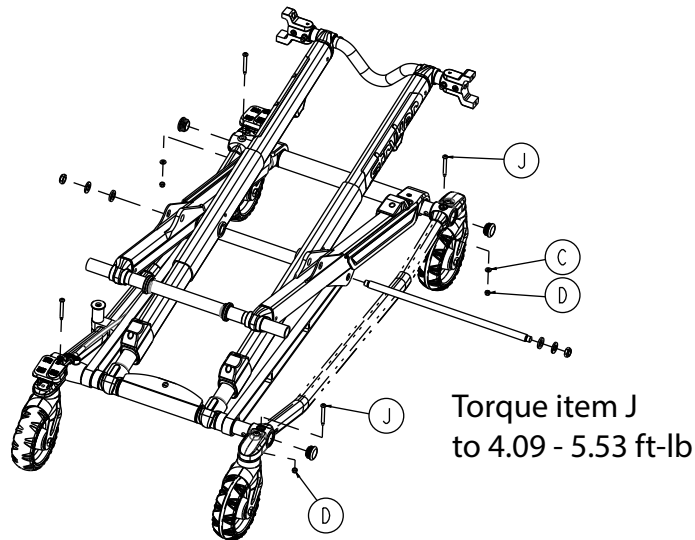

Figure 55 – Remove the base tube assembly
8. Using a T27 Torx driver and a 3/8" combination wrench, remove the two caster mount bolts (J), washers (C), and fiberlock nuts (D) that secure the base tube assembly to the cot (Figure 55). Save all parts.